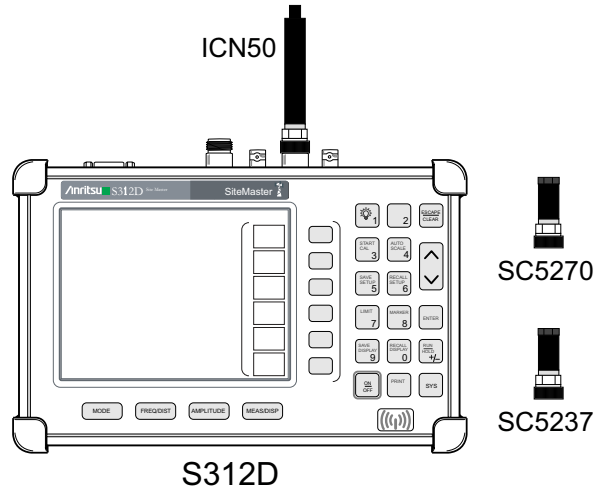

Figure 2-3. InstaCal Module Verification Test Setup
5. Connect the InstaCal Module to the RF Out port (as shown in Figure 2-3) and press the **ENTER** key.